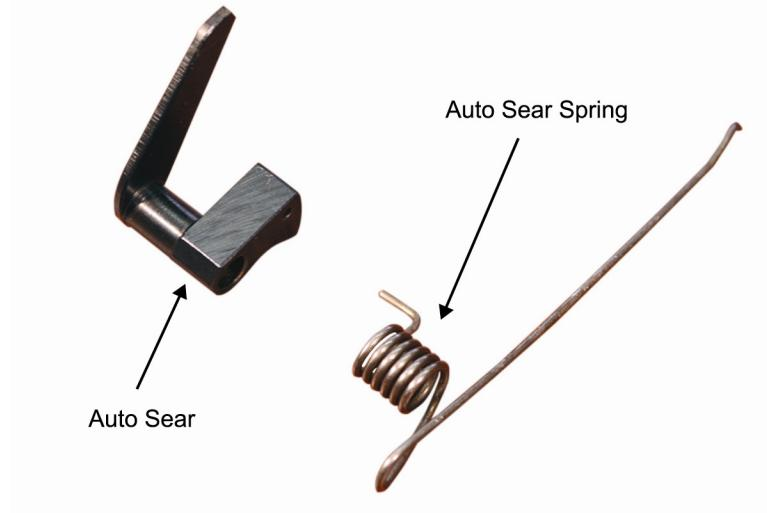

Figure 26. The Auto Sear Spring Removed from the Auto Sear.
n. Remove the auto sear spring from the auto sear. Refer to Figure 26.